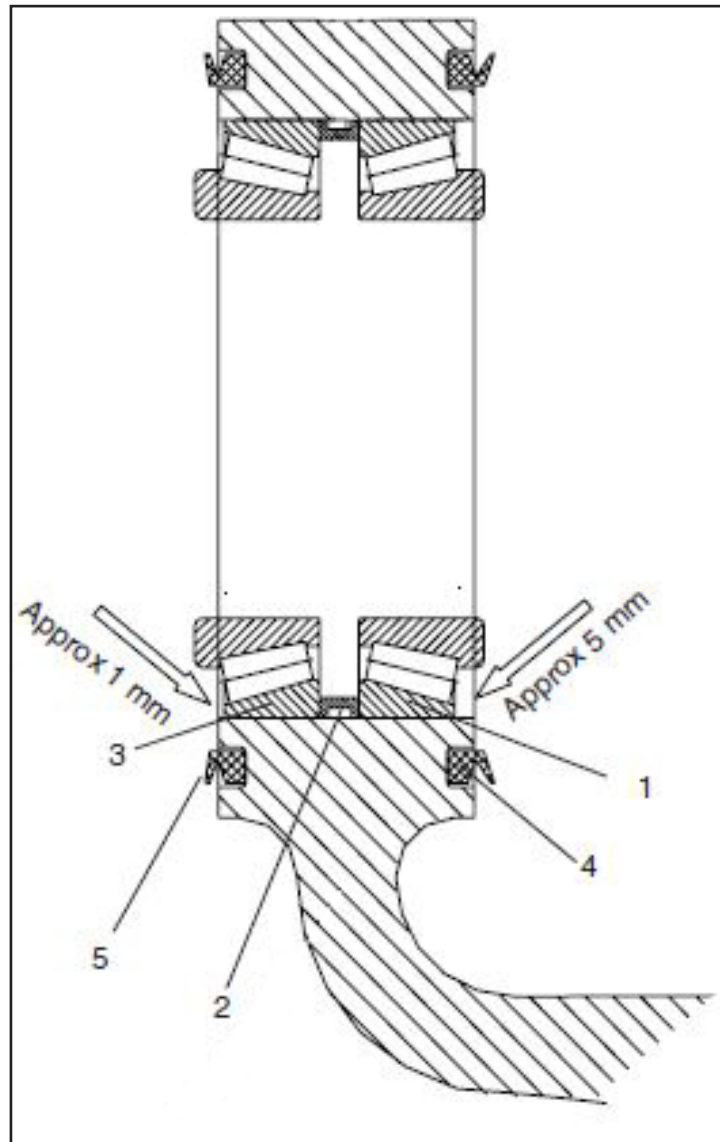

Figure 59
1. Assemble the plate, Pos 1. (see Figure 59)
2. Assemble 2 pcs washers and 2 pcs screws. Pos 2 and 3. (see Figure 59)